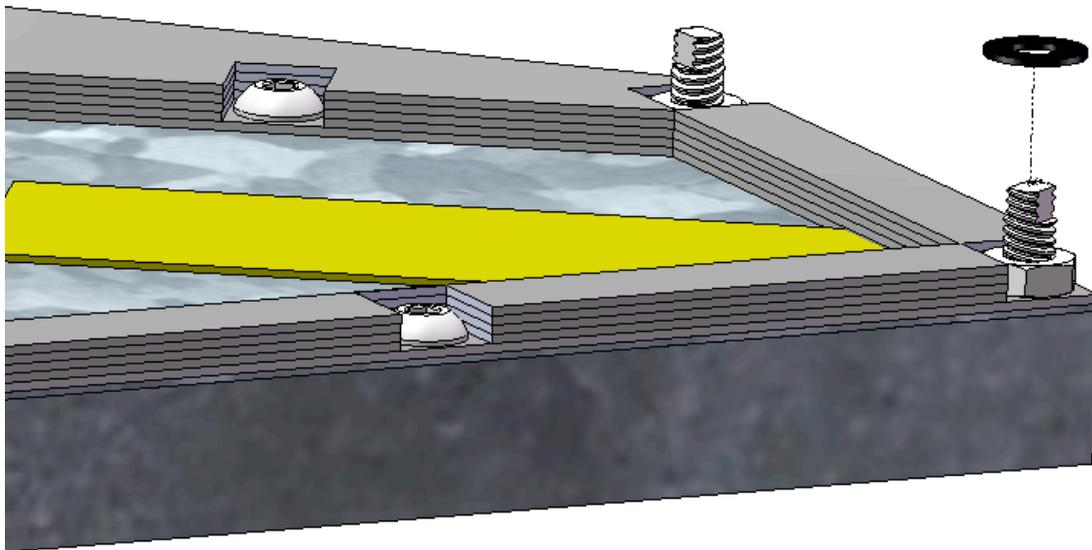

Figure 3-15: Rubber washer placement.
- 12) Place a 1/4" ID rubber washer on top of each of the nuts from step 13). See Figure 3-15.